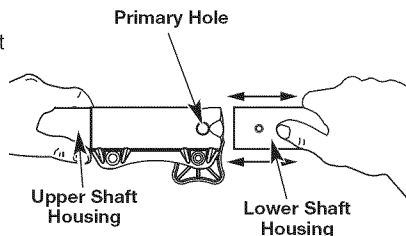

Fig. 3
2. While firmly holding the attachment, push it straight into the Convertible™ coupler until the release button snaps firmly into the primary hole (Fig. 3).